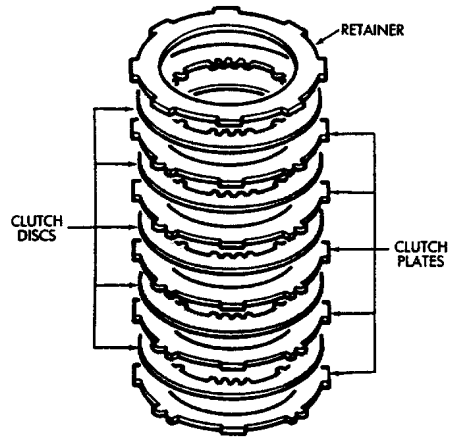
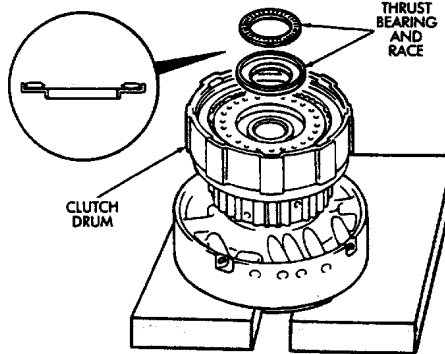
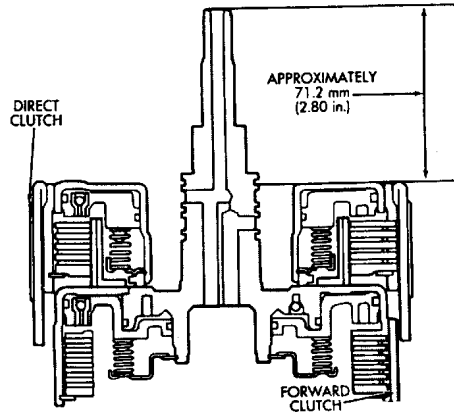

Fig. 15 Installing Forward Clutch Discs And Plates
Fig. 16 Installing Thrust Bearing And Race
Fig. 17 Checking Forward Clutch Assembled Height
(10) Install clutch discs, plates and retainer (Fig. 15). Install tabbed plate followed by disc until required number of plates and discs are installed. Use six plates and discs in a 6-cyl. transmission and five plates and discs in a 4-cyl. transmission.
(11) Install clutch pack snap ring.
(12) Recheck clutch piston stroke length using same method outlined at beginning of disassembly procedure. If stroke length is not within specified limits, replace clutch discs.
(13) Lubricate race and bearing with petroleum jelly and install them in clutch drum (Fig. 16). Be sure bearing rollers face up and race lip seats in drum as shown.
(14) Verify bearing and race size. Outer diameter of bearing is 46.7 mm (1.839 in). Outer diameter of race is 48.9 mm (1.925 in). Inner diameter of bearing and race is 26.0 mm (1.024 in).
(15) Mount forward clutch on direct clutch and check assembled height (Fig. 17). Height should be 70.3 to 71.5 mm (2.767 to 2.815 in).